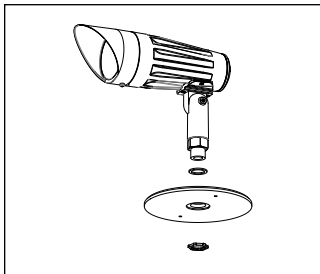

Figure 1
2. Secure 1/2" NPS stem to mounting option. Secure with provided locknut if applicable (Fig. 1).